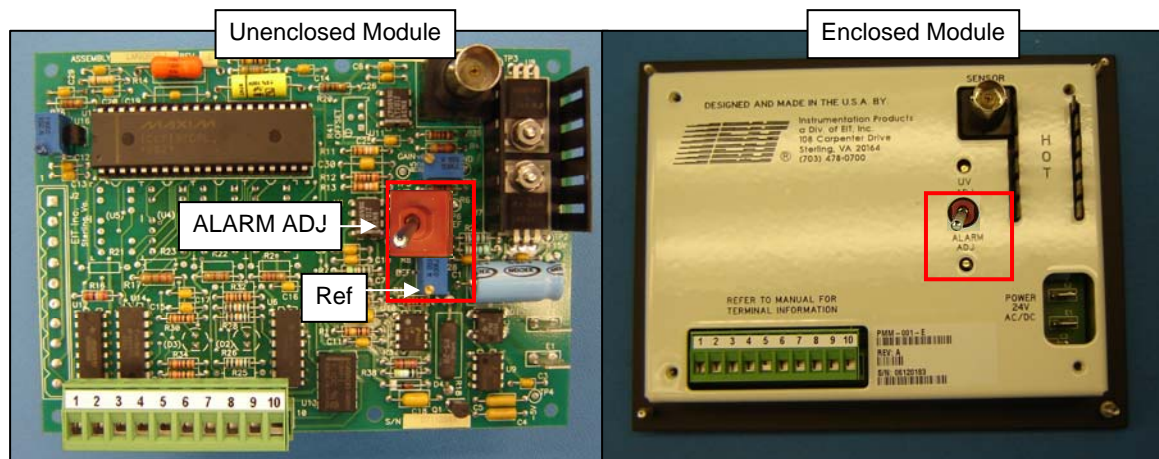

Figure 37: Online UV Intensity Display Module™ Alarm Threshold Adjustment
- Place the display selector in the down (Alarm ADJ) position (see Figure 37).